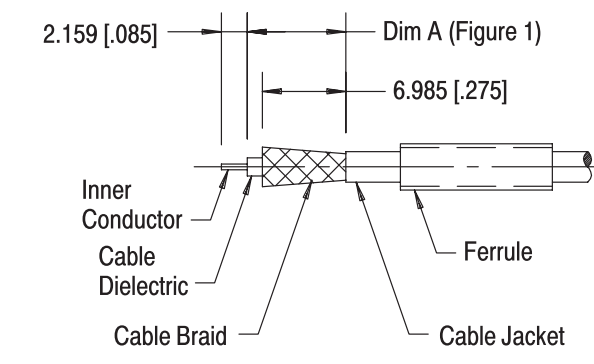

Figure 3
2.1. Prepare The Coaxial Cable (Figure 3)